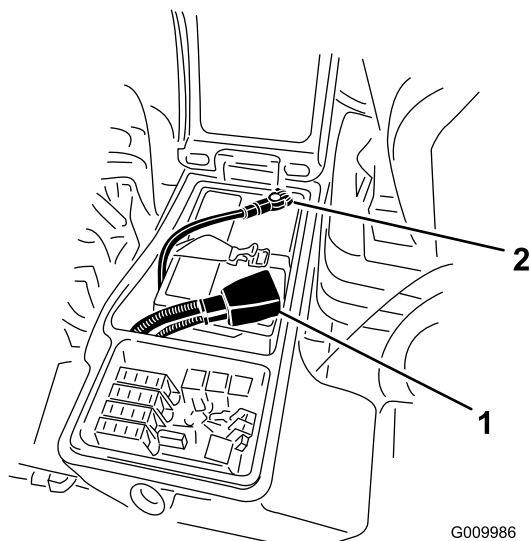

Figure 37
5. Install the positive cable (red) to the positive (+) terminal and the negative cable (black) to the negative (-) terminal of the battery (Figure 37).